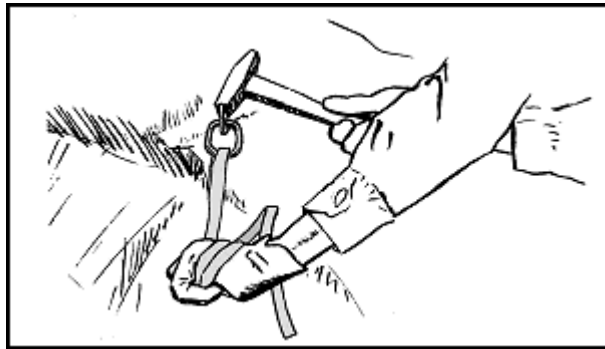

Figure 5-14. Piton removal.
e. **Removing Pitons.** Attach a carabiner and sling to the piton before removal to eliminate the chance of dropping and losing it. Tap the piton firmly along the axis of the crack in which it is located. Alternate tapping from both sides while applying steady pressure. Pulling out on the attached carabiner eventually removes the piton (Figure 5-14).